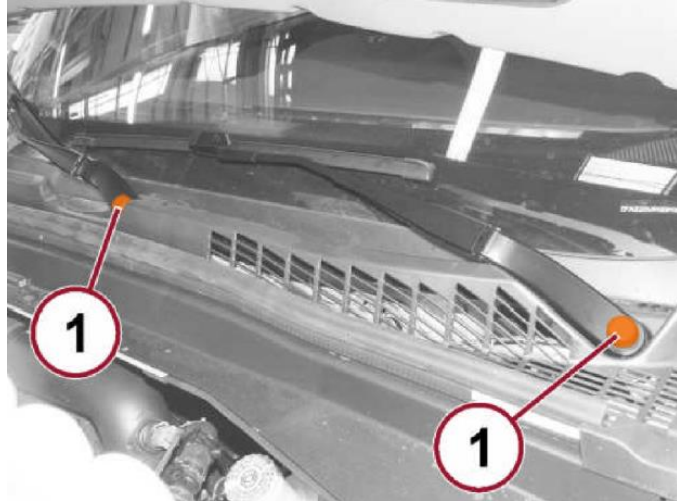

Figure 1 – Windshield Wiper Arm Nuts
2. Carefully pry the plastic nut caps (1) off of the nuts on the pivot end of the wiper arms (Figure 1).
5. Install the plastic nut caps (1) onto the wiper arm pivot nuts (Figure 1).